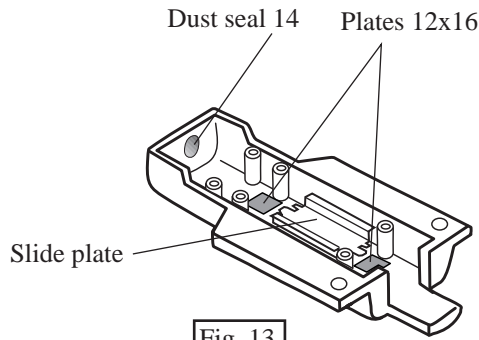

Fig. 13
- * Slide plate See Fig. 13
- * 2 pcs. of plates 12x16 (made of felt) on the places for plane bearings See Fig. 13.
- b. Apply machine oil #120 to plates 12x16. See Fig. 13.